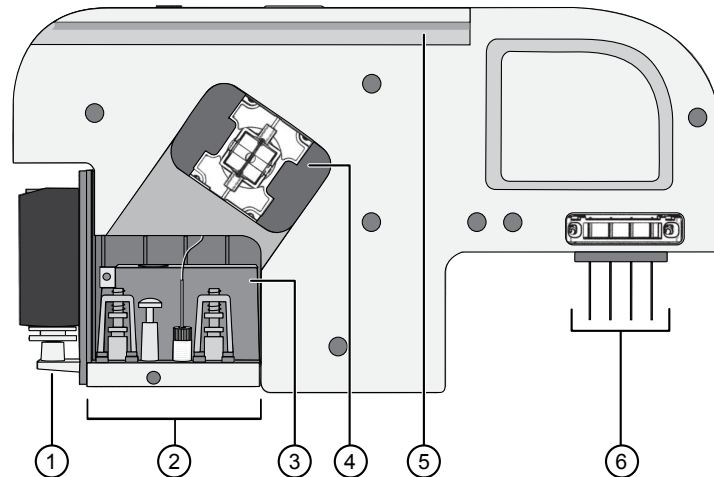
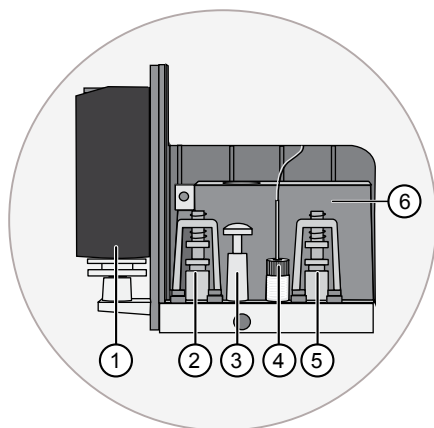

Figure 4 Parts of the cartridge
Figure 5 Parts of the polymer delivery system
- Contains a capillary array, a polymer delivery system, polymer, and anode buffer. See Figure 4 and Figure 5.